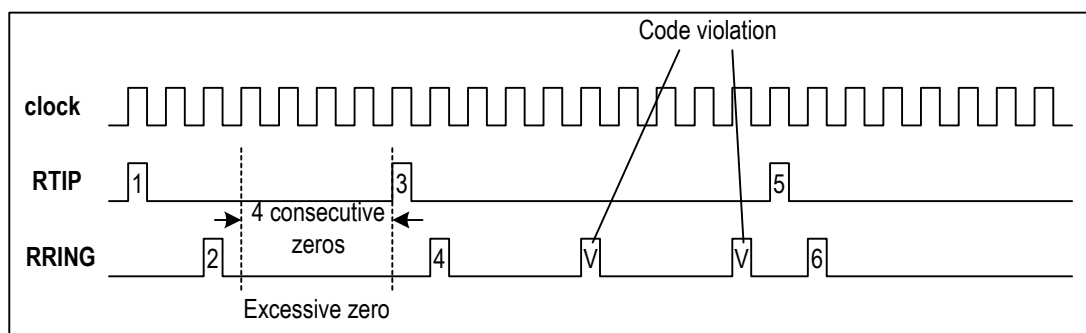

Figure 10. HDB3 Code Violation & Excessive Zero Error
2. HDB3 Code Violation (CV) Error: When HDB3 line code rule is used, a CV error is detected if two consecutive BPV errors are detected, and the pulses that have the same polarity as the previous pulse are not the HDB3 zero substitution pulsed (refer to Figure 10).